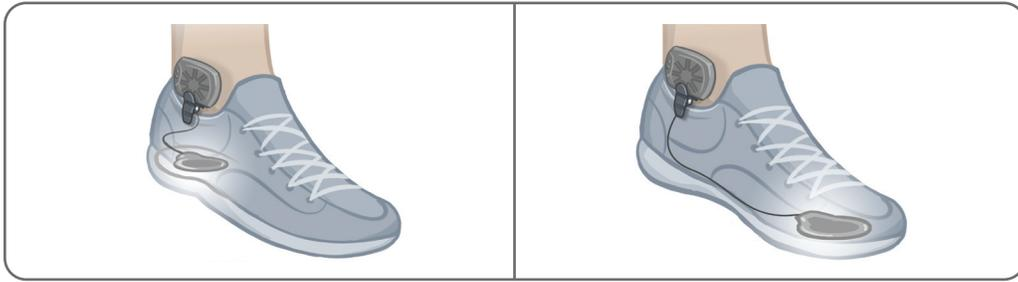

Figure 8-6: Final Position of the Foot Sensor Attached to the Shoe
5. Clamp the Foot Sensor transmitter on to the inner rim of the shoe. Face the starburst logo on the transmitter away from the ankle. See Figure 8-6.
6. Cover the pressure sensor with the insole. Tuck any excess wire under the insole. See Figure 8-6.